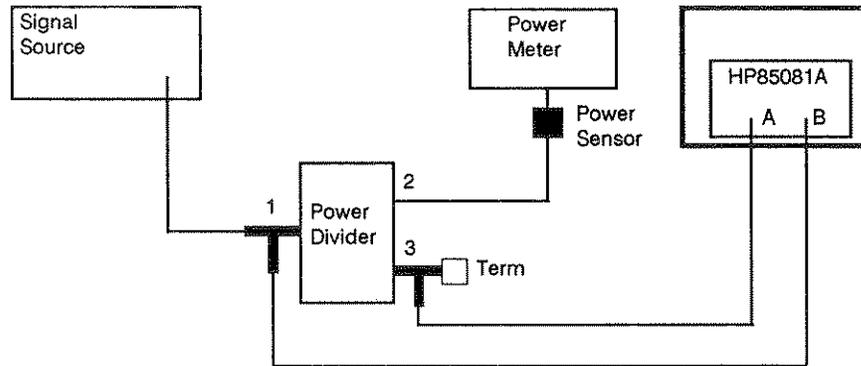

Figure 5-9. Channel Gain Setup
1. Configure the equipment as shown in Figure 5-9.